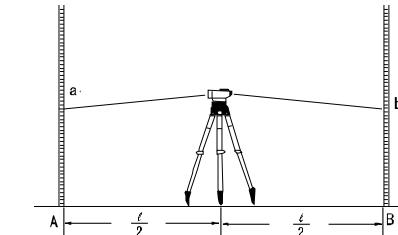

Fig.12
(1) Set the instrument halfway between A and B, staff A and B shall be 30~40M away, the readings are a_1, b_1 (Fig.12)